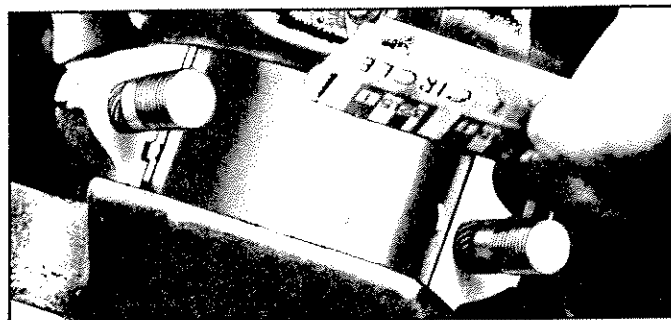

Fig. 124—Measuring Gauging Plastic
- Remove the bearing cap and without removing gauging plastic, check its width at the widest point with the scale on the gauging plastic envelope (fig. 124).